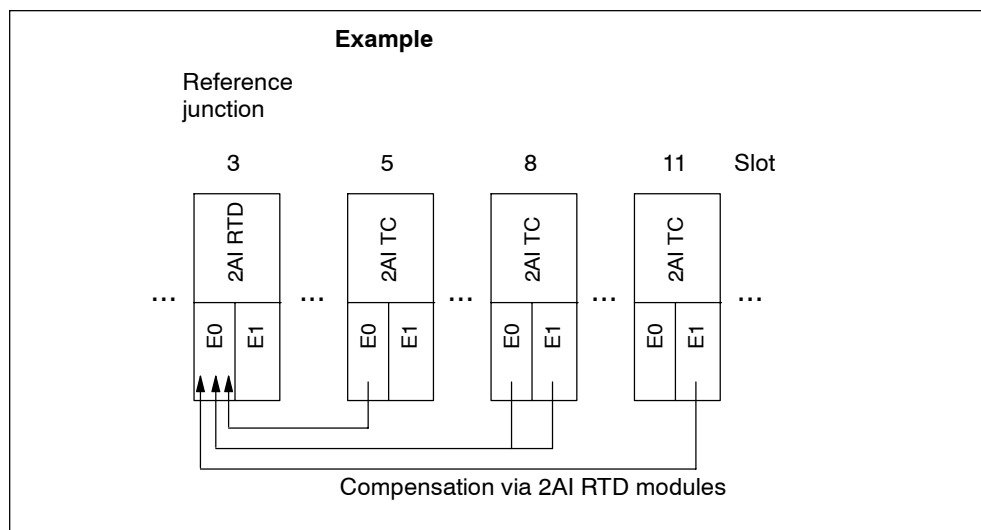

Figure 12-4 Example of the Configuration of Reference Junctions
- Structure: To simplify the situation, the following figure 12-4 shows only RTD and TC modules: